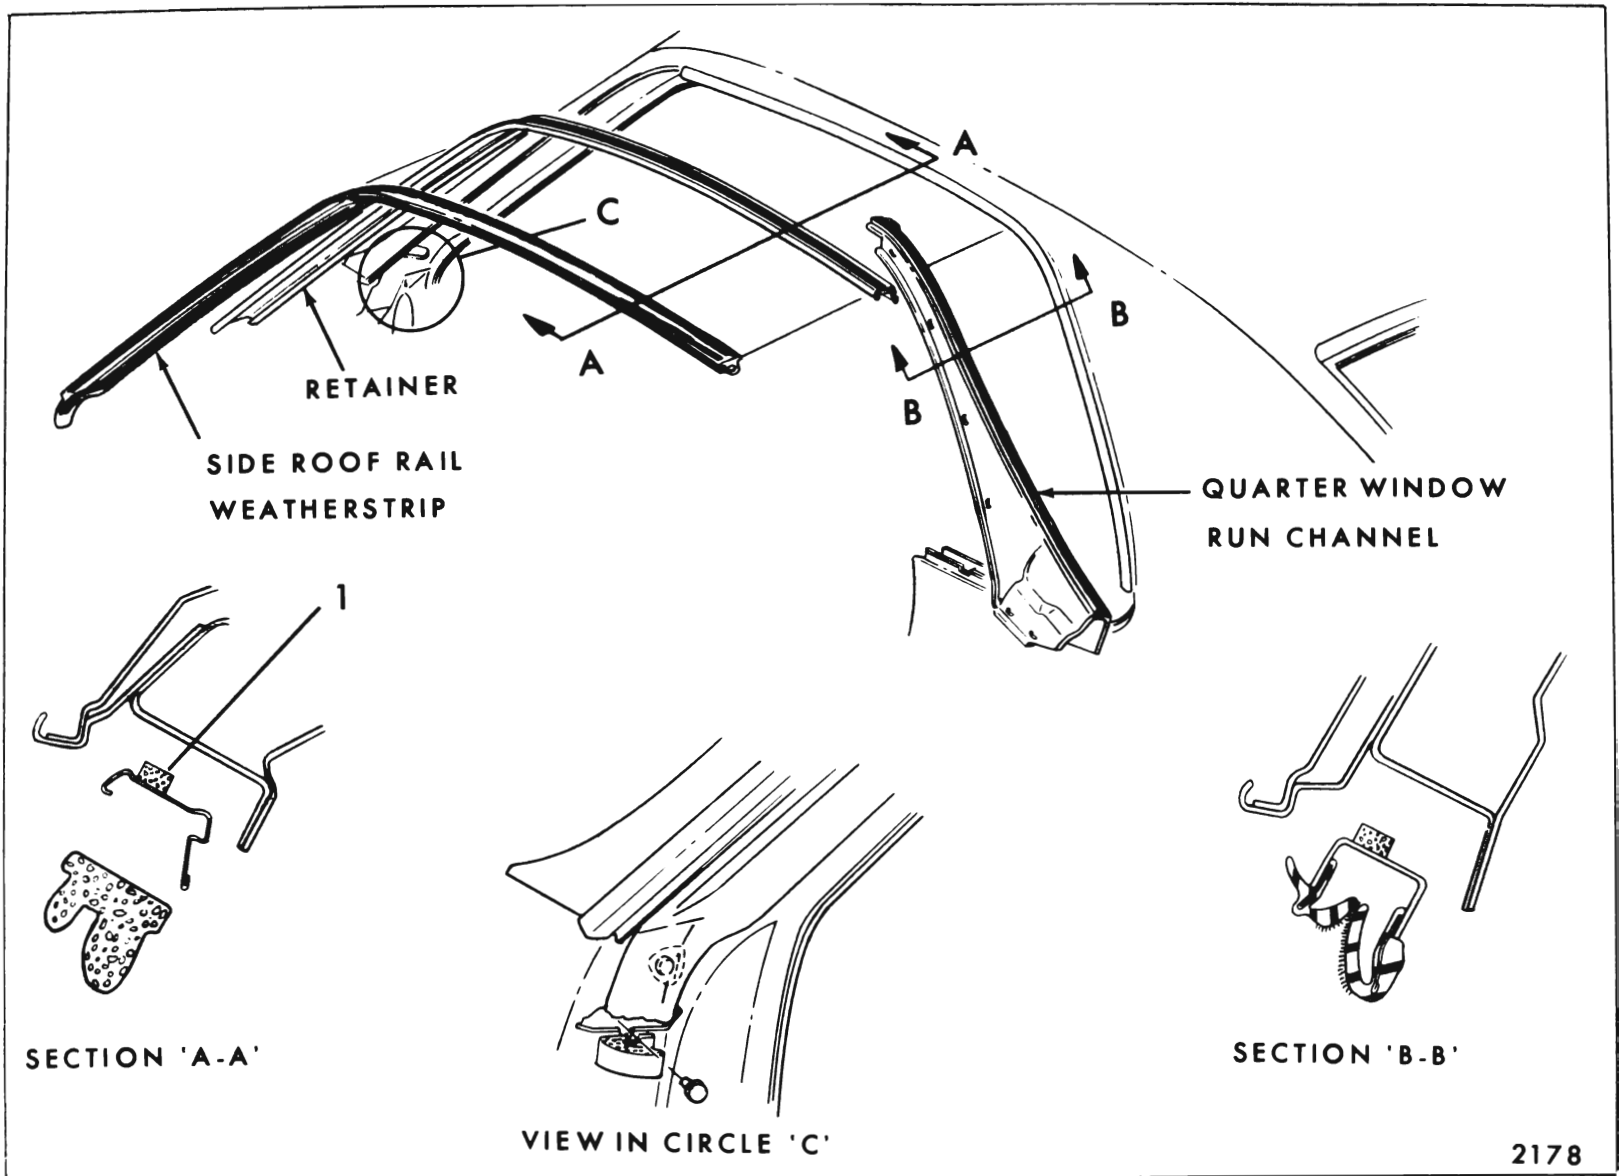

Fig. 7-38—Side Roof Rail Weatherstrip and Retainer - "E" Styles
1. If retainer were removed, remove and discard saturated polyurethane foam sealing strip from side roof rail weatherstrip retainer and/or side roof rail. ("1", Fig. 7-38 and 7-37 "E & B" Styles shown, others similar).